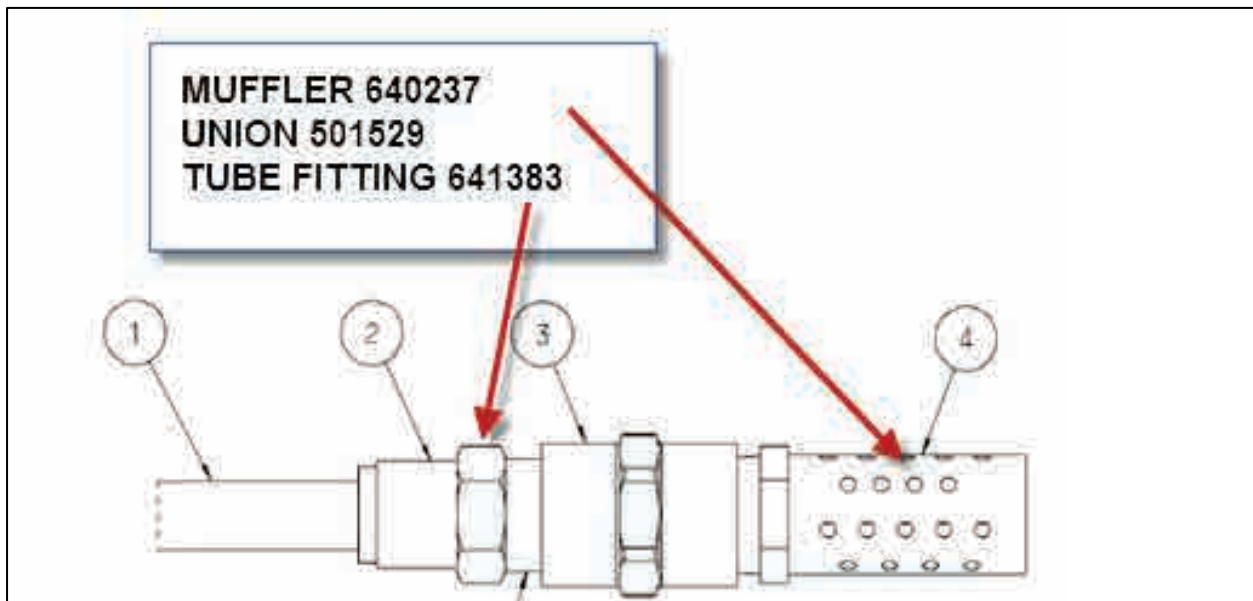

Figure 4
- 4) Assemble muffler and fittings according to Figure 4. Use Teflon sealant.